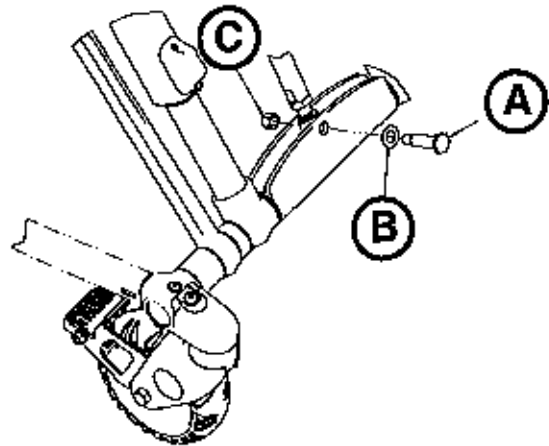

Figure 111
3. Using a 3/4" and 9/16" combination wrench, remove the rod attachment pin (A), washer (B), and Nylock hex nut (C) that secure the hydraulic cylinder to the base (Figure 111).